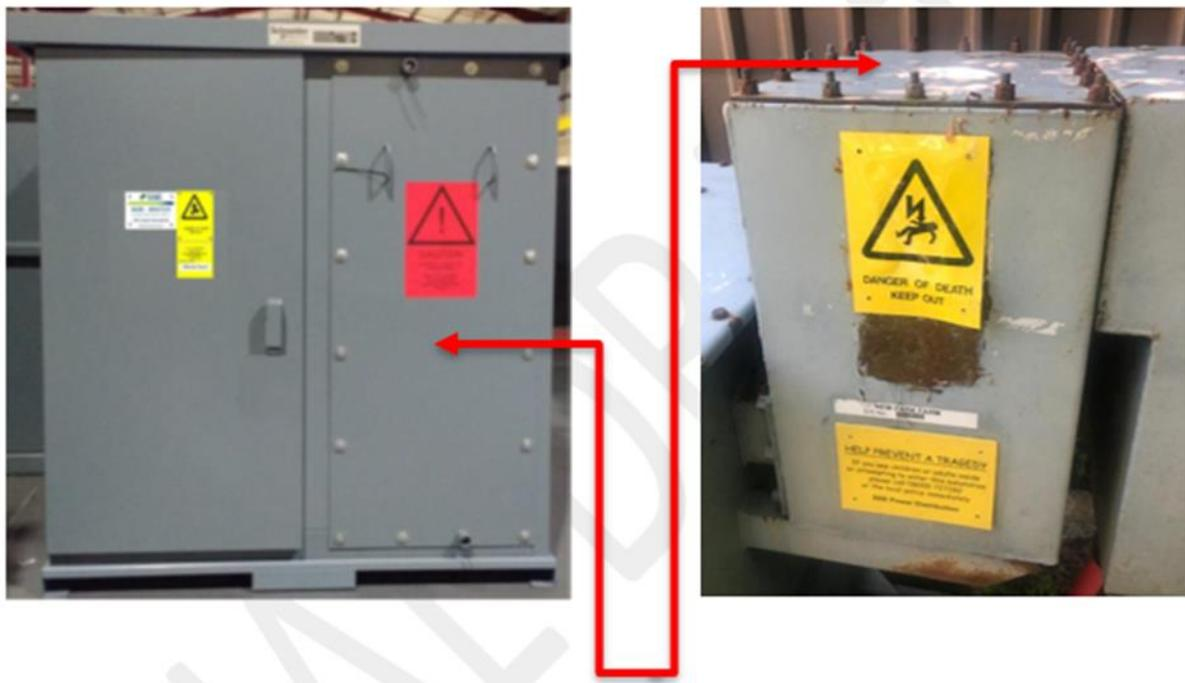

Figure 8.1 - High Voltage Compartment on Air Insulated and Oil Insulated Pad-mount
- 8.4 The compartment housing the **High Voltage** cables and, where applicable, **High Voltage** fuses is accessed by a bolted metal cover plate. This access cover plate is padlocked on air insulated units (see Figure 8.1 for example, left picture is air insulated, right picture is oil insulated)